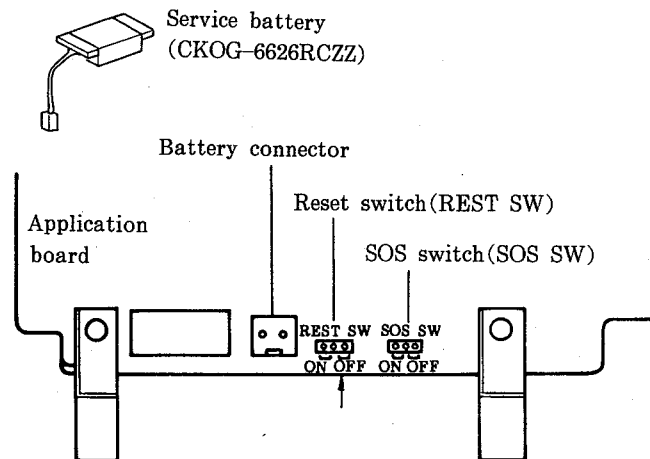

Fig. 14
- (4) Remove the rear cover. (See page 3.)
- (5) Remove the application board from the body as follows:
- Connect a service battery (CKOG-6626RCZZ) to the battery connector on the application board. (See Fig.14.)
- b) Set the reset switch to ON. (See Fig.14 above.)